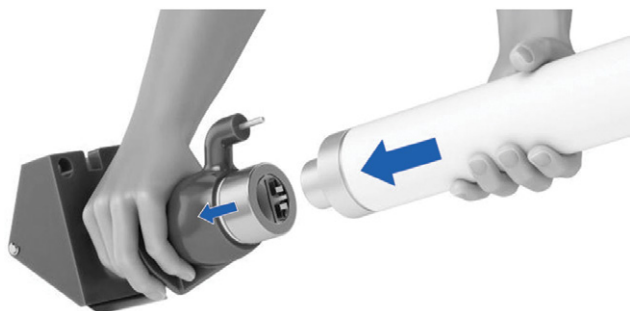

Figure 4-24: Insert fuse in the holder
8. Replace the fuse in the handle. Pull the contact ring backwards to release the fuse contact clamp in the holder; see figure 4-24.